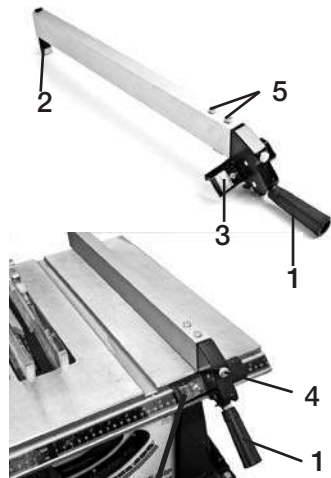

FIG 13
RIP FENCE INSTALLATION (FIG 13)
The rip fence is pre-assembled at the factory. To install the Rip Fence, place the end furthest (2) from the lock handle (1) so that flange is over the rear edge of the table, then lower the end closest to the handle over the front rail. When the Lock down handle (1) is in the UP position, the flanges are relaxed, allowing you to re-position the Rip Fence. When the Lock down handle is in the DOWN position, the flanges are locked with rails in place. (See FIG 13)
RIP FENCE ADJUSTMENT (FIG 13)